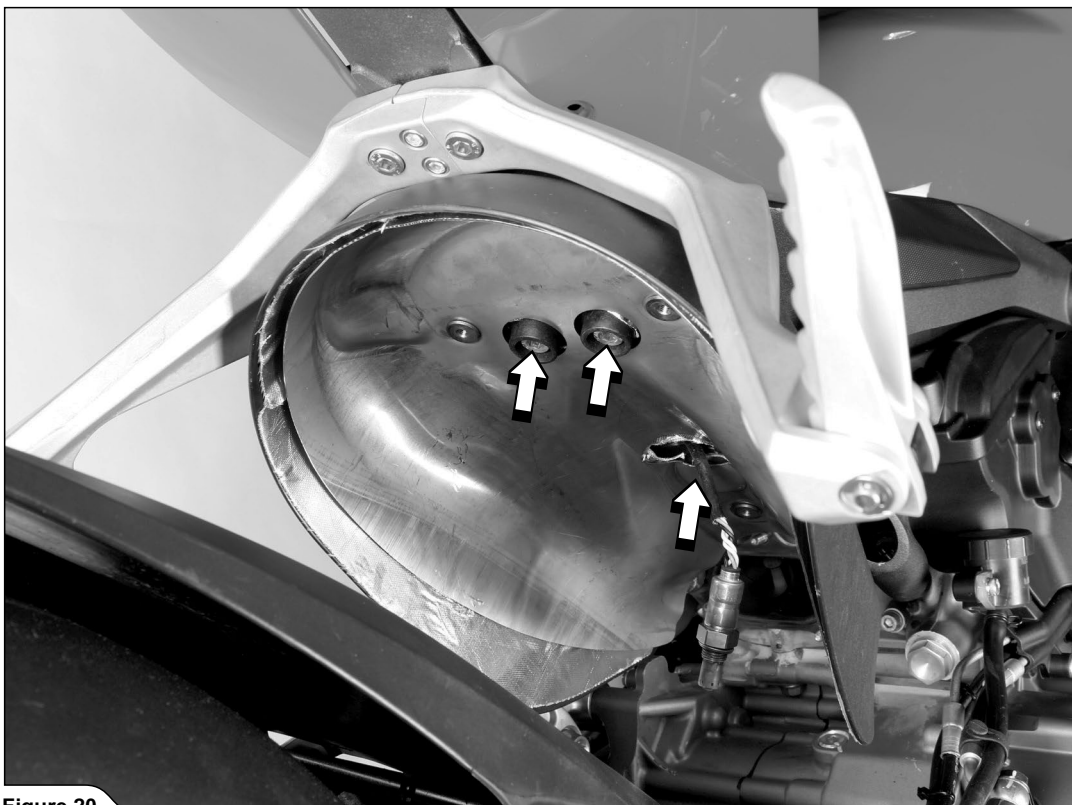

Figure 20
10. Unscrew the marked bolts and remove the heat shield (Figure 20). For use without passenger's foot rests only: unscrew the passenger's foot rests off the motorcycle.